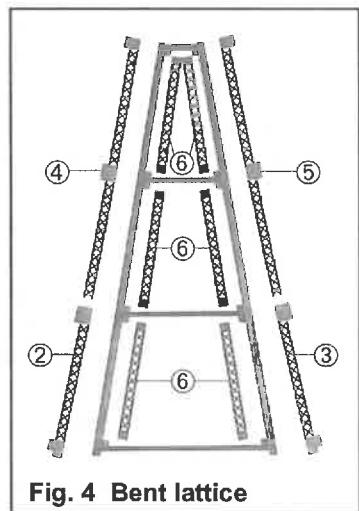

Fig. 4 Bent lattice
Figure 4 shows their general position. (For clarity, the parts are shown flat in figure 4, they would actually be on edge if cemented to the bent halves.)
#### 4. Cement the inside bent lattice parts (6) to the bent assembly. Figure 4 shows their general position.